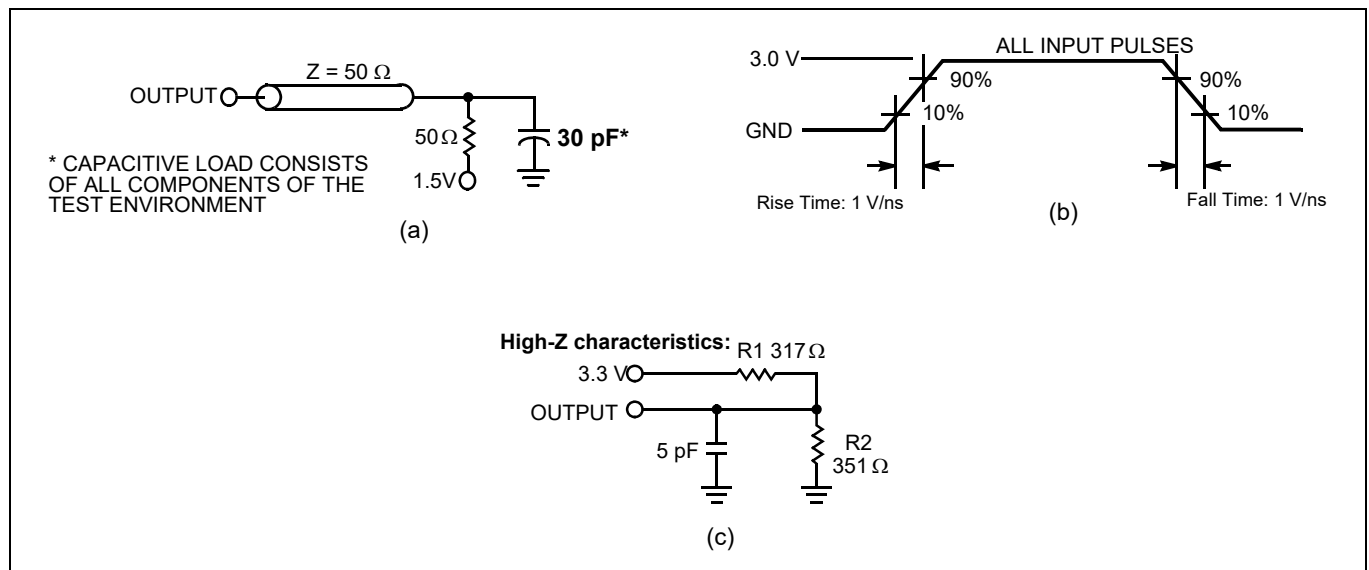

Figure 2 AC test loads and waveforms^[5]
5. AC characteristics (except High-Z) are tested using the load conditions shown in Figure 2 \(a\). High-Z characteristics are tested for all speeds using the test load shown in Figure 2 \(c\).
11. t_{HZOE} , t_{HZCE} , and t_{HZWE} are specified with a load capacitance of 5 pF as in **Figure 2** (c). Transition is measured when the outputs enter a High-Z state.